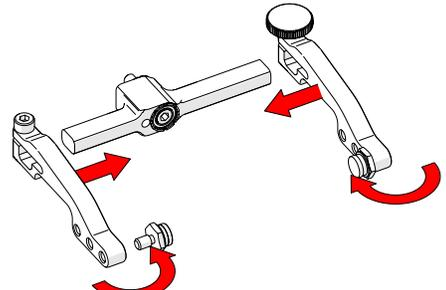

Fig. 142 - Attach arms & move buttons
5. Place the pivot buttons on the inside of the probe holder arms (Fig. 142) using a 3/8 in wrench (Fig. 43).